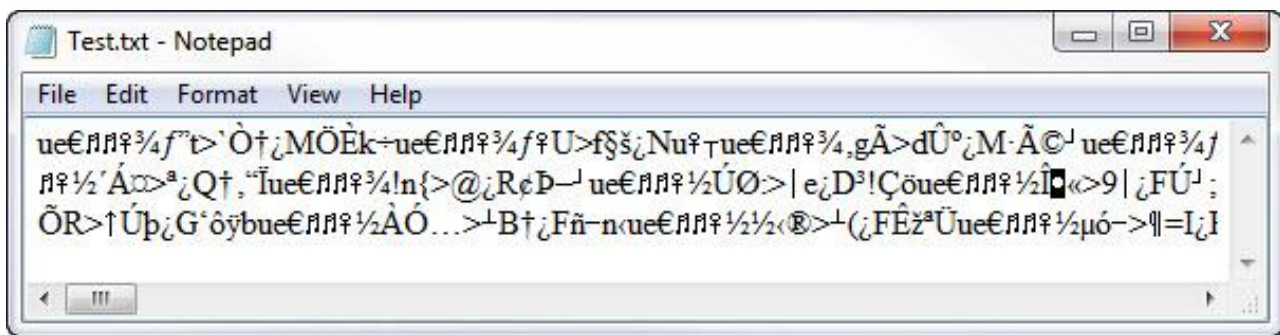

Figure 3: Datalogger File
- Open Test.txt and you will be presented with a view, as shown in our example figure 3.